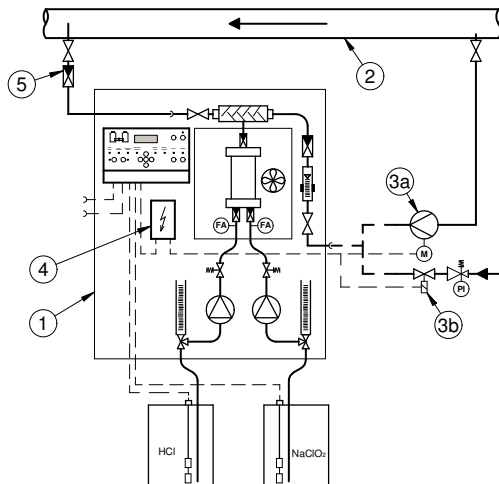

Abb. 6.1.1: Installation with direct dosing
- ① Chlorine dioxide unit EASYZON D
- ② Water flow that is treated with chlorine dioxide.
- ③a Circulation pump for dilution water
- ③b Solenoid valve for dilution water
- ④ Control system for the dilution system
- ⑤ Injection point
Fig. 6.1.1 shows a typical installation for the dosing in a water flow. Water must be provided for the dilution of the produced chlorine dioxide. Either a circulation pump (③a) supplies the pressure for the flow or the dilution water comes from a line with a higher pressure. Pressure-reducing valves and solenoid valves are installed in this case (③b). The water dilutes the chlorine dioxide solution directly at the reactor output to approx. 1 g/l and transports it to the injection point ⑤.